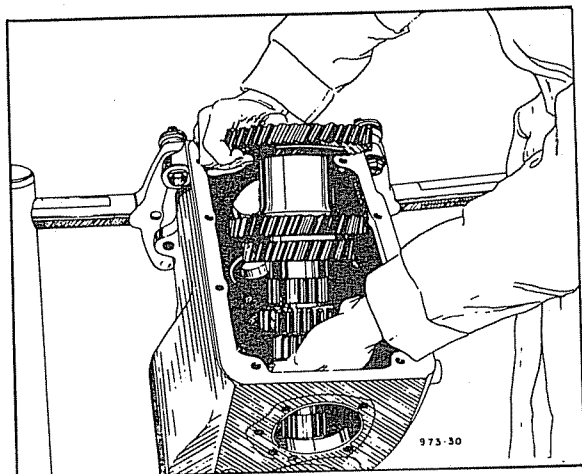
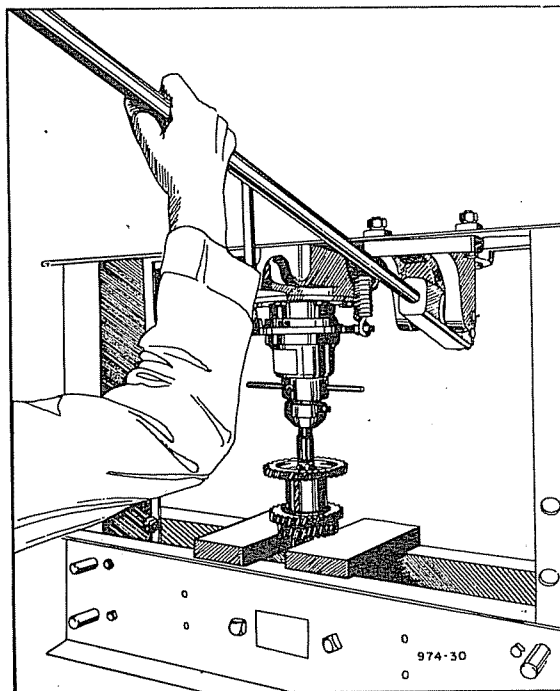

Fig. 24—Removing Cluster Gears.
Fig. 25—Removing Gears from Countershaft.
- (14) Lift the countershaft up and out of the case. Refer Figure 24.
- (15) Remove the reverse idler gear shaft lock plate screw and plate and drive the shaft out through the rear of the case, using a hammer and soft drift.
- (16) Lift out the gears, bearing and bearing spacer.
- (17) Place the countershaft assembly in an arbour press and press the gears off the shaft. Figure 25.